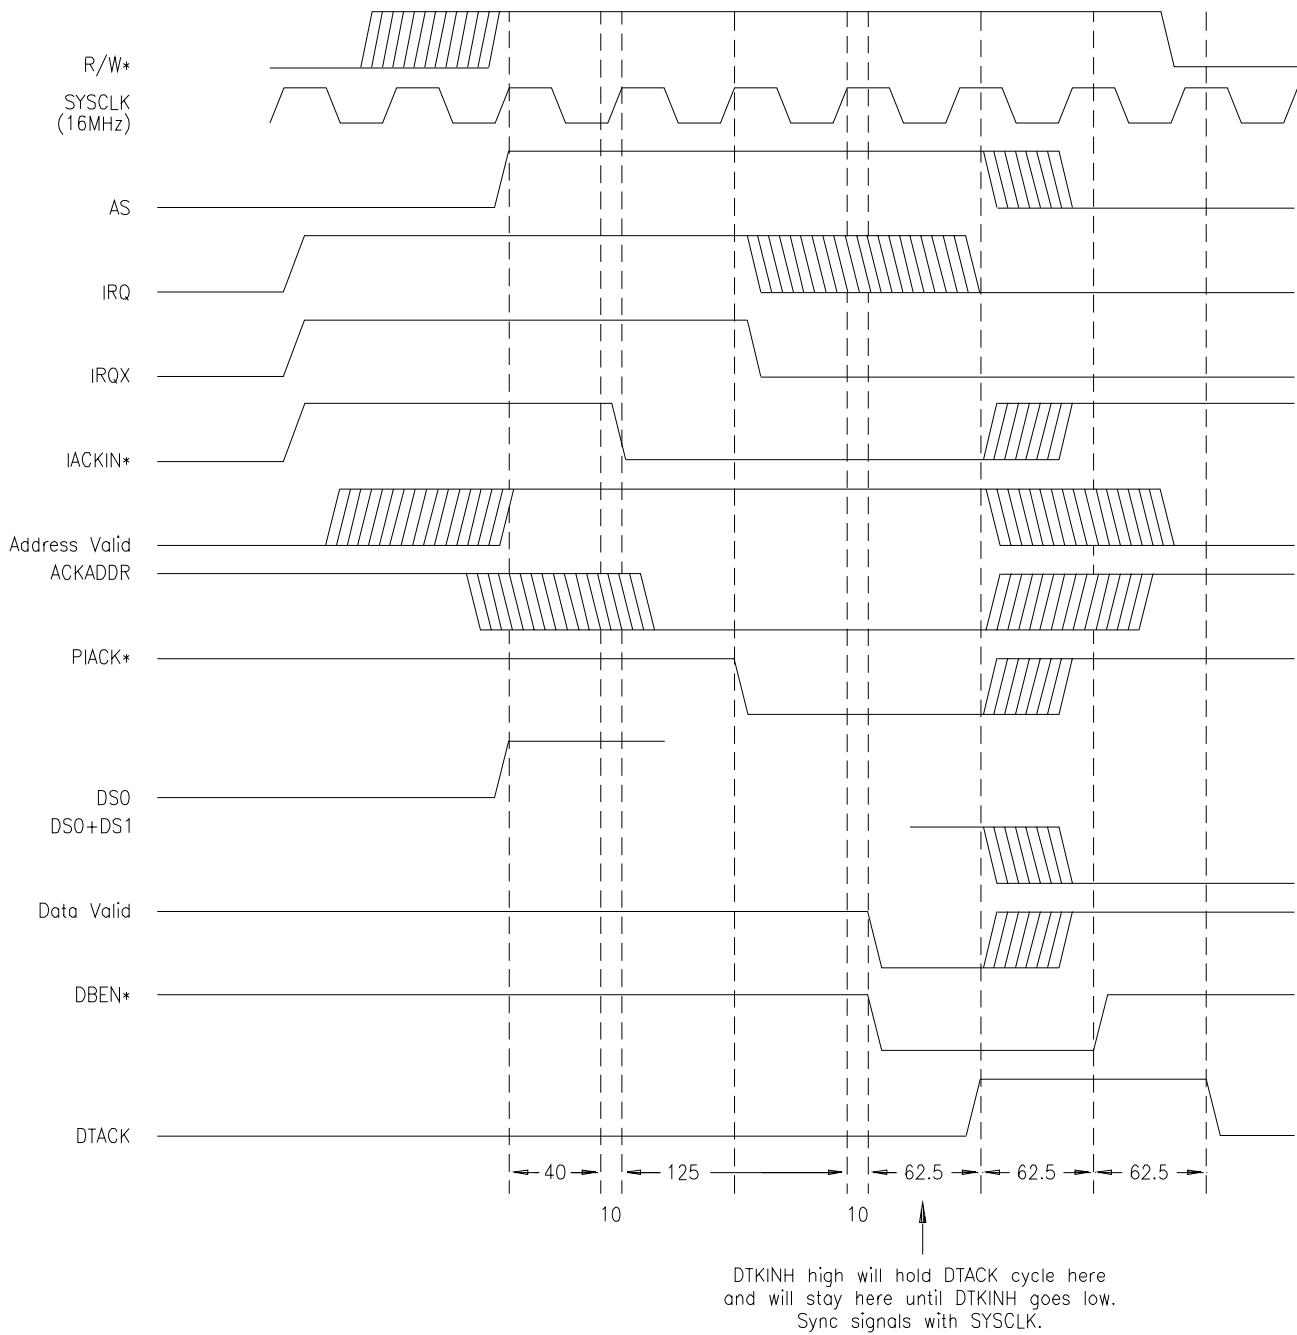

Figure 3-5. Interrupt Timing
- You must provide the interrupt request from your custom circuits by setting the IRQ access point low (0) when the interrupt is to occur. Interrupts are edge triggered.
- Your system controller and/or interrupt handler must react to the signal timing in the PAL (U9) for the IRQ and DTACK state machines as shown in Figure 3-5.